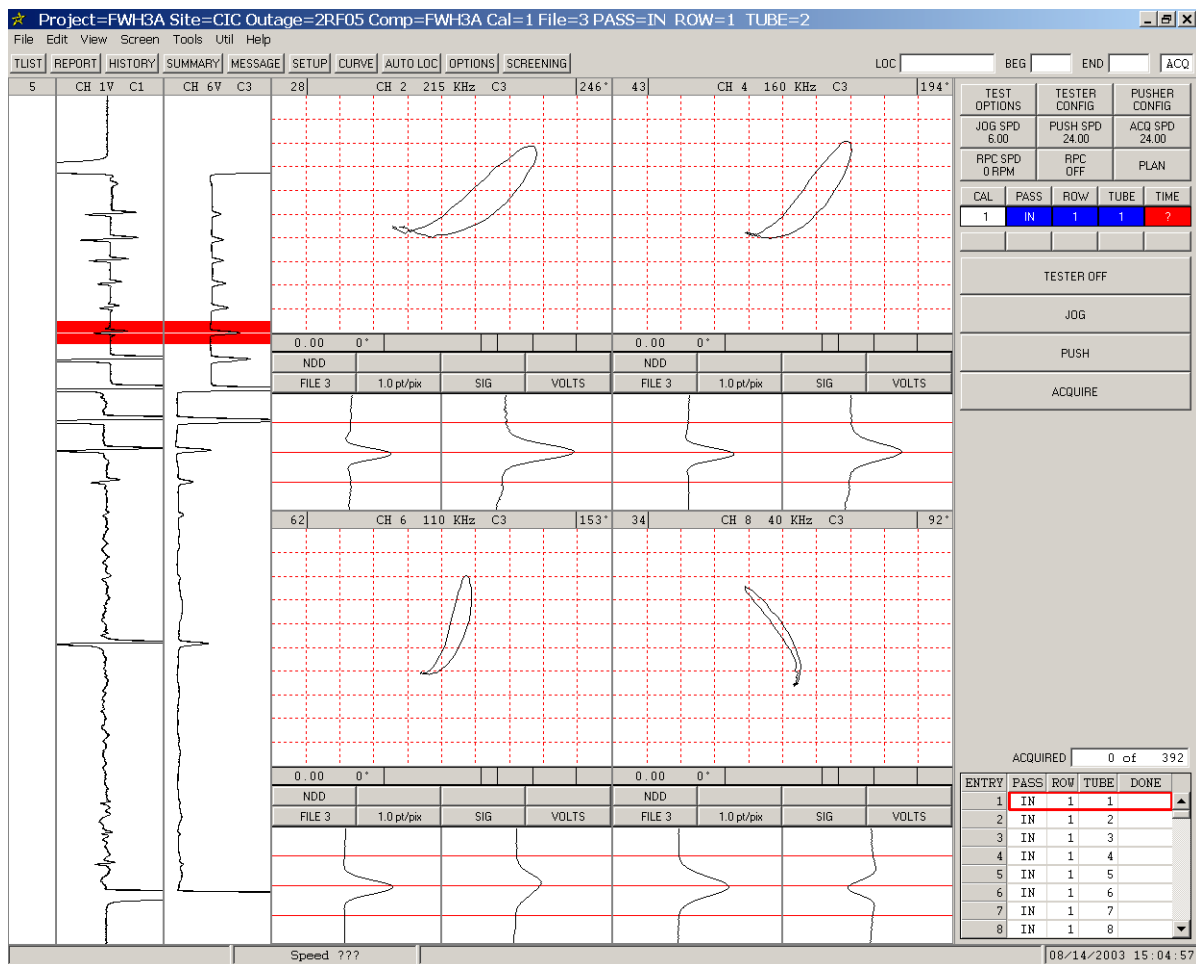

Figure 10-19. Acquisition Screen - Setting Absolute Span Levels
- STEP 27:** Repeat the 2 steps above for the remaining absolute channels (4, 6, & 8). The signal **Span** or **size** should appear similar to Figure 10-19.